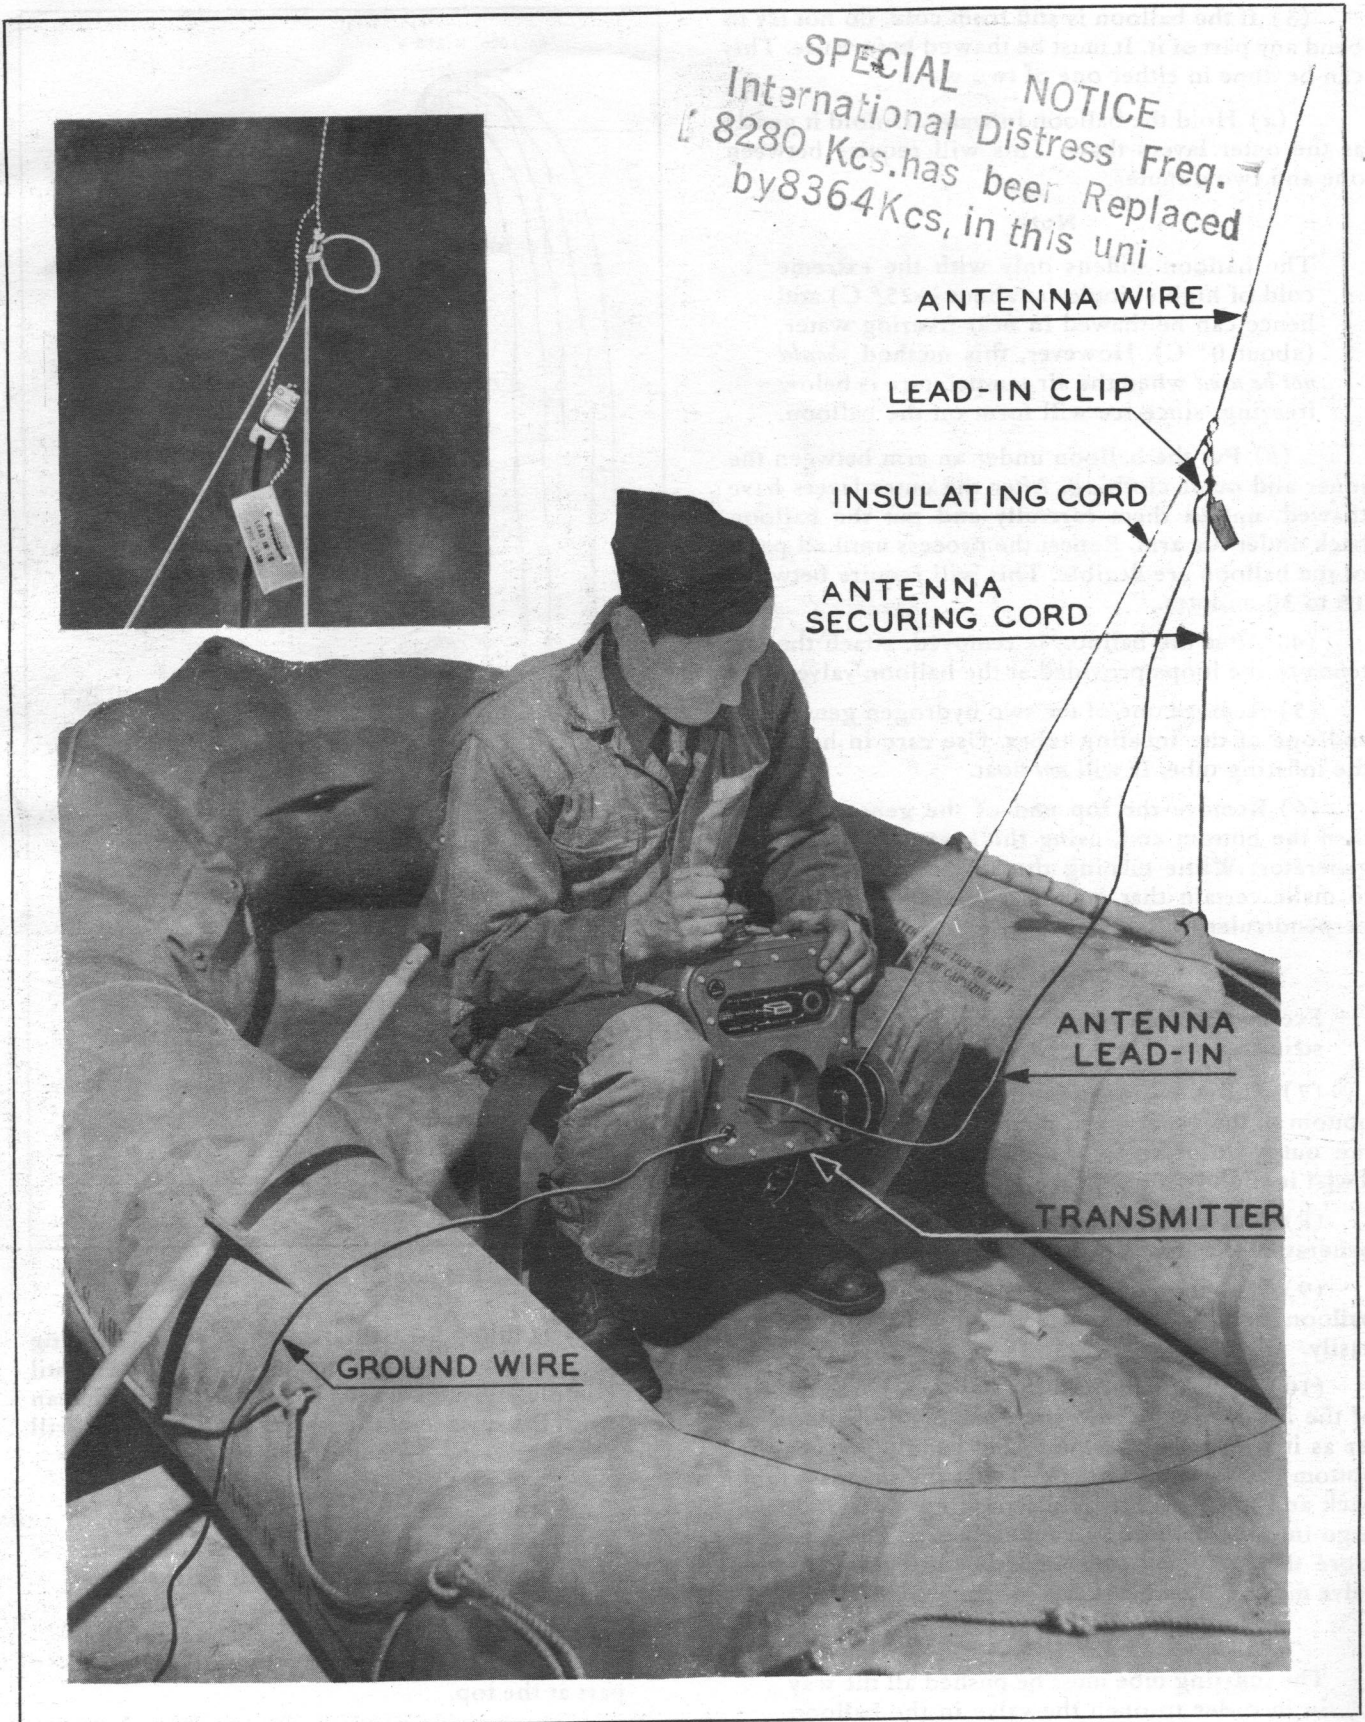

Figure 2-7. Antenna Connection
(6) Release the antenna-securing cord from the insulating cord by removing the three small pieces of tape holding the two together and attach the antenna-securing cord to the life raft. (See fig. 2-7.)